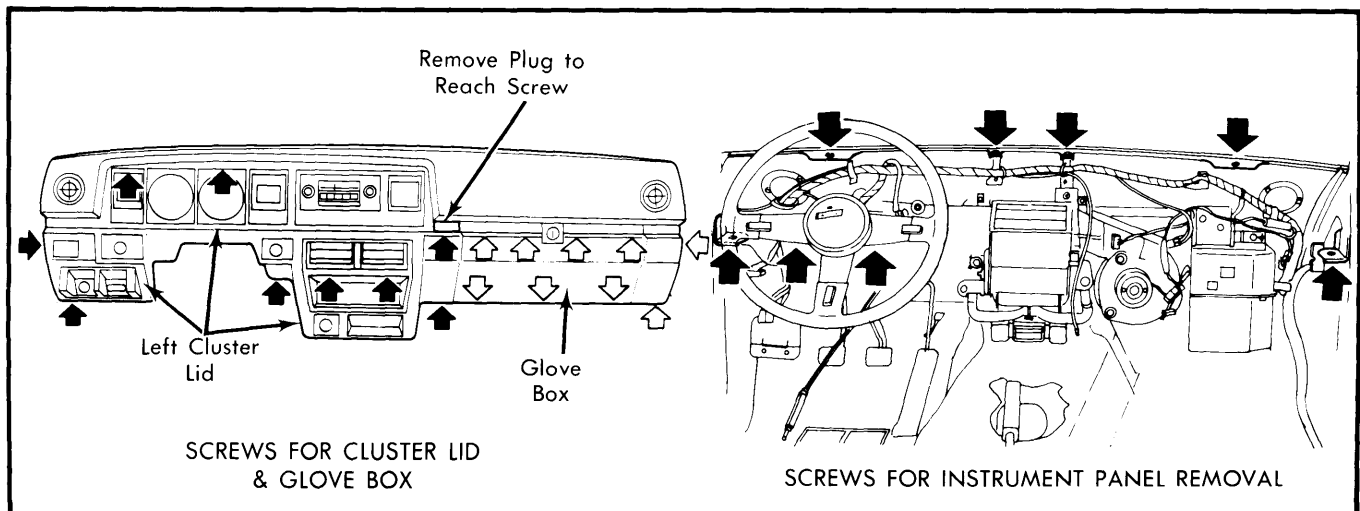

Fig. 4 Remove Screws from Locations Shown by Arrows to Remove Cluster Lid and Instrument Panel On 510
2) Remove plug to left of glove box door. Remove radio knobs and nuts. Remove side defroster control knob. Remove cluster lid screws. See Fig. 4. Unplug wiring for center dash light, rear defogger, lighter, clock and turn signal switch. Remove left cluster lid. Disconnect speedometer cable and remove combination meter.